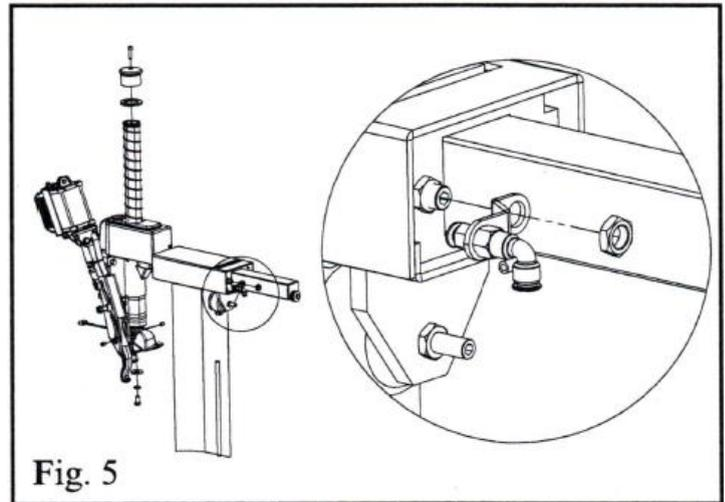

Fig. 5
- Referring to the figure 5 fit the L-plate (6/fig.1) with the unions (5/fig.1 and 7/fig.1) onto the screw located on the back of horizontal arm.
- Fit the nut M12 (8/fig.1) as shown in the figure 5;
- Set the L-plate into a proper angle as shown in the figure 5 and then tighten the nut.
- Connect the spiral hose to the union fixes in the L-plate as shown in the figure 5.